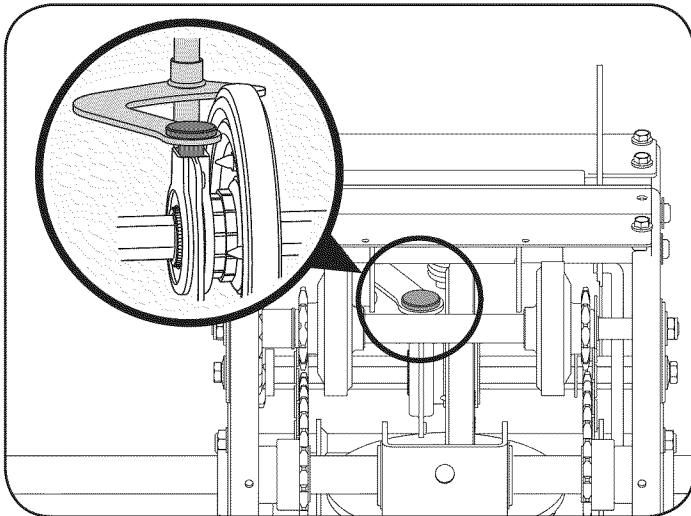

Figure 37
9. Reposition the friction wheel assembly in the snow thrower frame. Insert the pin from the speed selector arm assembly into the friction wheel assembly and hold assembly in position. Refer to Figure 37.